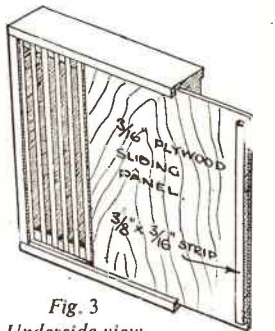

Fig. 3
The bottom sliding plywood panel, $\frac{3}{16}$ in. thick, should be cut and smoothed all over with glasspaper to slide within the grooves cut in the three sides of the outer frame. Fit the thin strip under the outer edge (Fig. 3), and your crumbless breadboard is ready for use—if you prefer a natural finish.
There is nothing difficult in the construction. The board consists of three main portions: the outer frame; the slotted grid; the sliding plywood panel. Suggested dimensions for the board are given in Figs. 1 and 2, but these may be varied to suit individual requirements. A start should be made with the outer frame, which is best dovetailed at the corners from $\frac{3}{4}$ in. thick strips of beechwood. Sides (A) and (B) should be $1\frac{1}{2}$ ins. wide, and the other two sides a $\frac{1}{4}$ in. less, i.e., $1\frac{1}{4}$ ins. wide. Side (C), after dovetailing, should be reduced to $\frac{7}{8}$ in. wide, the thin strip cut off being planed down to $\frac{3}{16}$ in. by $\frac{3}{16}$ in. and afterwards glued and pinned to the under front edge of the bottom plywood panel—see Fig. 3. Note that side (B) is